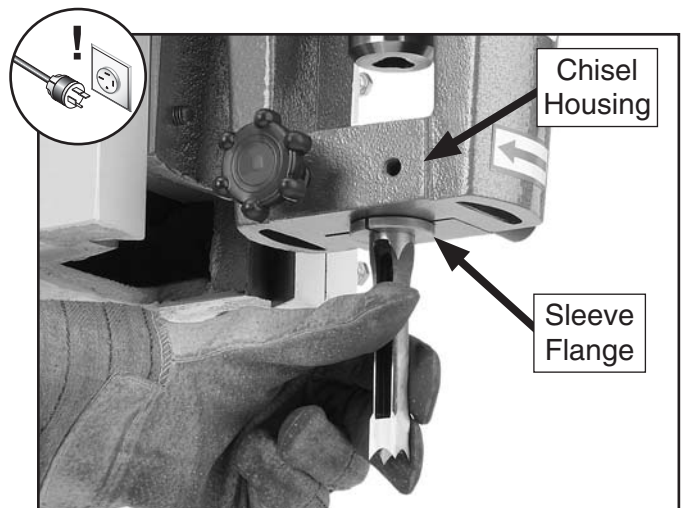

Figure 15. Chisel and sleeve installed into the chisel housing.
4. From the bottom, insert the chisel and sleeve assembly into the chisel housing so that the flange of the sleeve is up against the bottom of the housing, as shown in **Figure 15**.